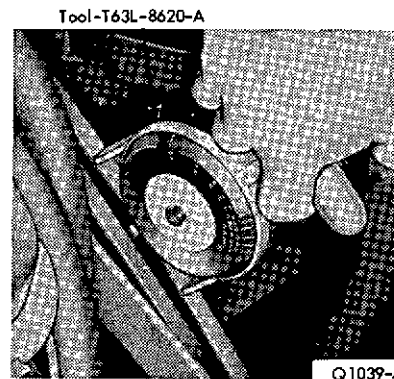

FIG. 2 Belt Tensioning
- Install the belt tension tool on the drive belt (Figure 2) and check the tension.